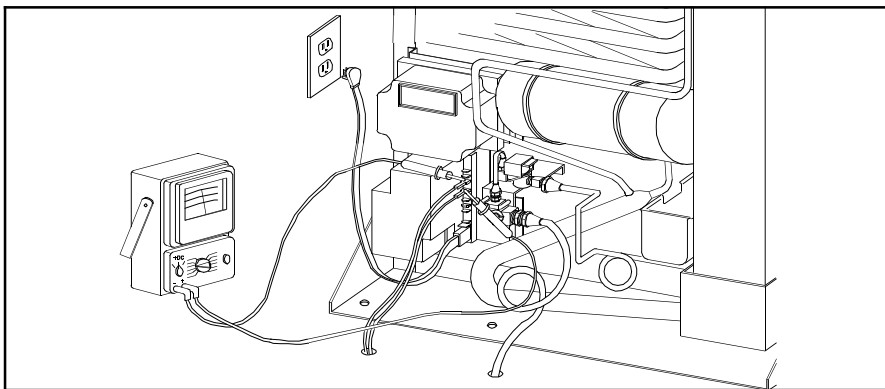

Figure 11.34 12 Volt DC Supply Check
1. With a volt-ohm-meter set to measure 12 volts DC check the input supply to the Power Supply terminals J3 and J4 as shown in Figure 11.34. If you do not have 12 volts DC repair the source.